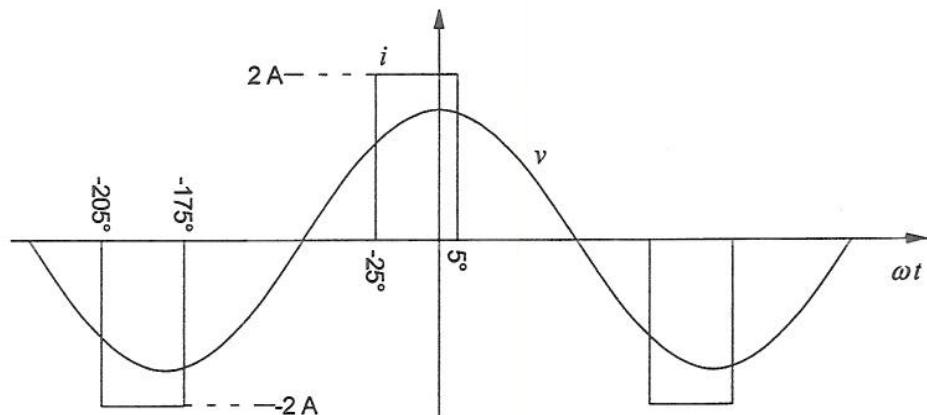

Figure Q3
- (a) Figure Q3 shows the waveform of AC side current of a rectifier and its relationship to the AC voltage.